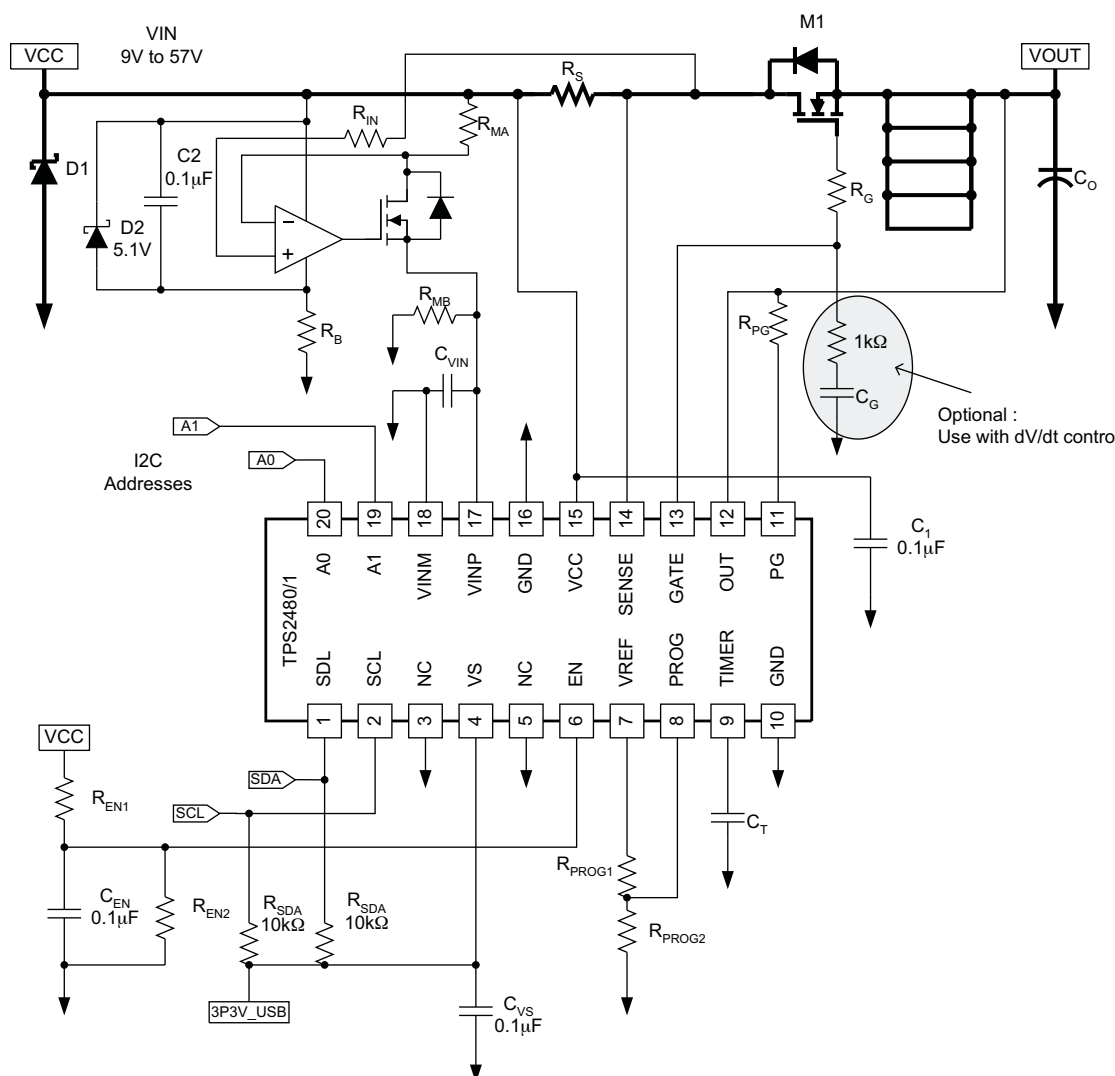

Figure 19. TPS2480/81 High Voltage application
The TPS2480/81 can be used to monitor current from a voltage source greater than 26 V by using the OPAMP circuit shown in Figure 19.
- NOTES: (1) The value of the Slave Address Byte is determined by the settings of the A0 and A1 pins. Refer to Table 1.
(2) Read data is from the last register pointer location. If a new register is desired, the register pointer must be updated. See Figure 19.
(3) ACK by Master can also be sent.